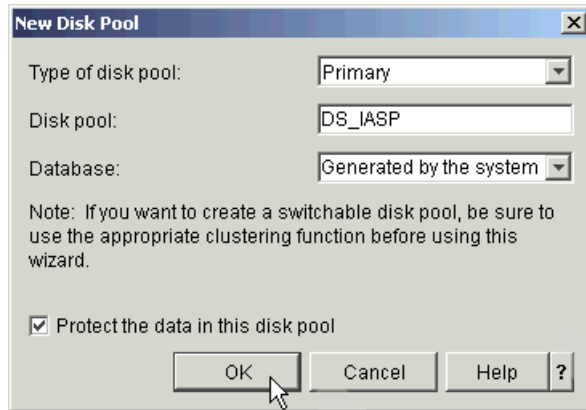

Figure 5-27 Defining a new disk pool
6. In the New Disk Pool window (Figure 5-27):